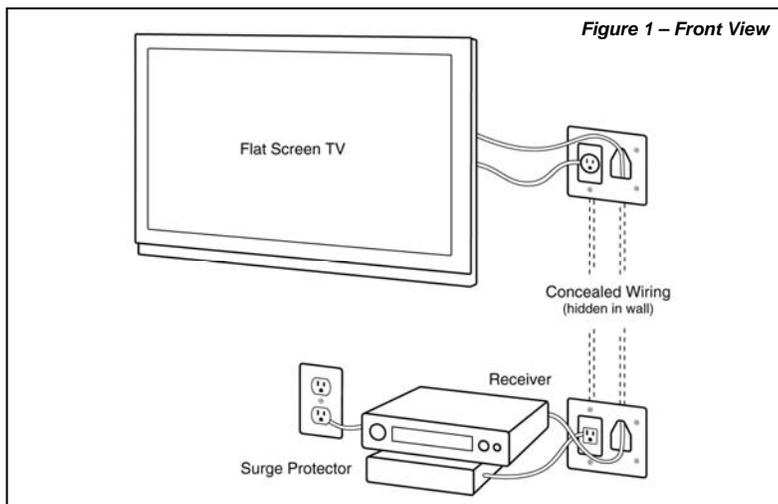

Figure 2 - Back View
3. **Remember that the Pro-Power Installation Kit is not part of your home's electrical wiring system.** Before installing the single gang retrofit workboxes (see **Figure 2**), pull a piece of 12/2 or 14/2 with ground UL approved building wire from one opening to the other opening to connect the Recessed Cable Plate with Power to the Recessed Cable Plate with Straight Blade Inlet. Make sure the piece of wire is long enough to allow for easy installation of the receptacles. Insert a single gang retrofit workbox (see **Figure 2**). Securely fasten the workbox to the wall.
6. To connect the Recessed Cable Plate with Straight Blade Inlet to the piece of 12/2 or 14/2 with ground UL approved building wire, use the supplied three wire nuts. Connect the hot line (black) wire to black wire, neutral (white) wire to white wire and grounding (green) wire to the (green) or bare grounding wire (**see Figure 4**). Make sure the three wire nuts are fastened tightly. Plug all necessary video and audio cables through the opening on the Recessed Cable Plate with Straight Blade Inlet. Insert the straight blade inlet portion of the plate into the retrofit work box. Once the entire recessed plate is flush to the wall, using the two white screws supplied, screw the straight blade inlet portion of the plate to the work box. Next, screw down the screws with wings. The wings will fasten tightly against the back of the drywall. Make sure to keep your UL approved building wire away from the video and audio cables (**see Figure 2**).
10. The flat panel TV or TV/Projector plugs into the Recessed Cable Plate with Recessed Power (**see Figure 1**). The supplied 6 ft. cord will plug into the Recessed Cable Plate with Recessed Straight Blade Inlet (**see Figure 2**) and into either your surge protector or wall receptacle.